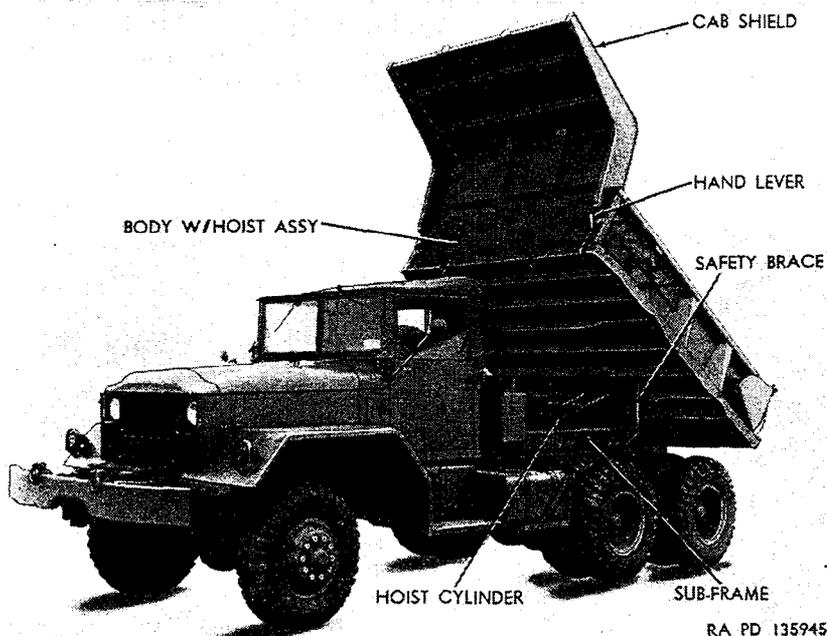

Figure 94. Dump truck M51 with body in raised position.
- (1) *Dump body.* The dump body (fig. 94) mounted on the rear of the dump truck M51 is of all-steel welded construction with a universal-type tailgate which may be opened at either the top or the bottom. This construction permits operation of the truck as either a regular, rocker-type, or spreader-type dump. The front end of the body is equipped with a reinforced steel-plate cab shield which extends over and protects the truck cab during operation. The dump body, which has a capacity of 5 cubic yards, is hinged to the rear of the sub-frame which is mounted directly on the truck chassis.
- (2) *Hoist assembly.* The hoist assembly used to raise and lower the dump body is comprised of a pair of double-acting hydraulic cylinders, a positive-displacement gear-type hydraulic pump, a hydraulic oil reservoir, and connecting high pressure-type hoses. The hydraulic pump, which is mounted on the underside of the reservoir built into the forward end of the subframe (fig. 94), is driven by a propeller shaft connected to a power-take-off (par. 208) mounted on the lower right side of the transmission. Operation of the hoist assembly is controlled by the dump body control lever (fig. 67)
- (1) Position truck for dumping, and stop the truck (par. 46c).
- (2) Pull the tailgate-control-rod hand lever (fig. 94) forward and down as far as it will go to unlock the tailgate.
- (3) Disengage the engine clutch (par. 23).
- (4) Release the lock on the dump body control lever (par. 39) and move the lever to the POWER-UP position.
- (3) Perform operations described in *b*(3), (4), and (5) above.
- (4) When the dump body has raised two or three feet, move the dump body control lever to the HOLD position.
- (5) Pull the hand lever (fig. 94) forward and down as far as it will go. In this condition, the material should just start to spill out under the tailgate.
- (6) Disengage the engine clutch, and place the transmission gearshift lever in the "1" (first) speed forward position and the transfer shift lever in the L (low) range position.
- (7) Increase the engine speed slightly and slowly engage the clutch to set the truck in motion.